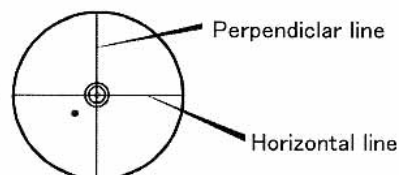

Fig. C-7
- ④ Insert the collimating eyepiece and tilt the secondary mirror until the dot on the surface is over the center of the crosshairs. In the illustration Fig. C-7, the center of the collimating eyepiece matches the center of the crosshair, but the secondary dot is located low and to the left. The secondary must now be tilted toward the primary mirror mark (+) and the (+) must be moved upwards.